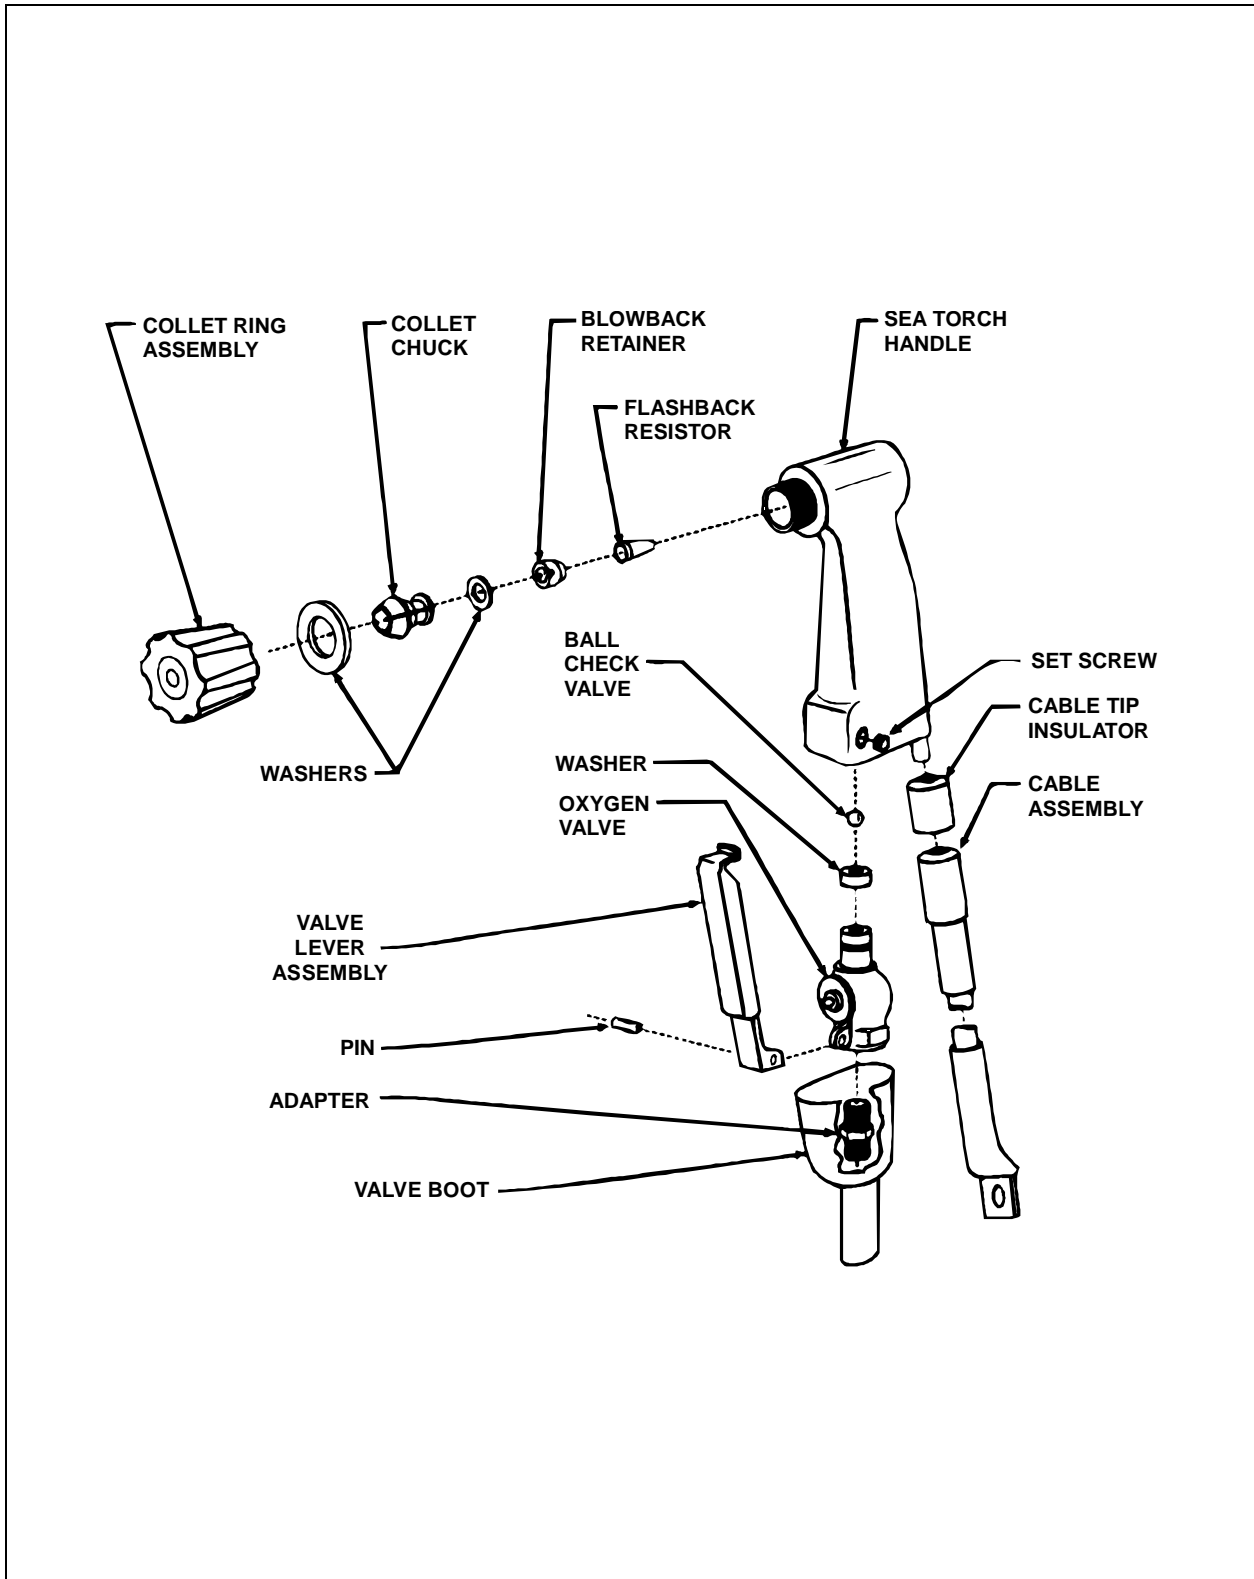

Figure 2-6a. Underwater Oxygen-Arc Cutting Torch Breakdown (Arcair).
**2-2.13 Post-dive Maintenance.** After each use, rinse the torch in fresh water and dry it. Disassemble and inspect the flashback arrestor for corrosion damage due to electrolysis or clogging. (Frequent clogging or screen burn-out indicates either insufficient oxygen pressure or burning the electrode shorter than the 3-inch minimum.) Replace any damaged parts (see Figure 2-6a, b or c as applicable). All equipment should be thoroughly dry before storing. Secure hose ends with caps or tape to keep out debris. Store all equipment, including electrodes, in an oil-free environment. Electrodes which have been exposed to salt water will rust. They should be rinsed with fresh water, blown dry and stored separately to prevent damage to other rods.